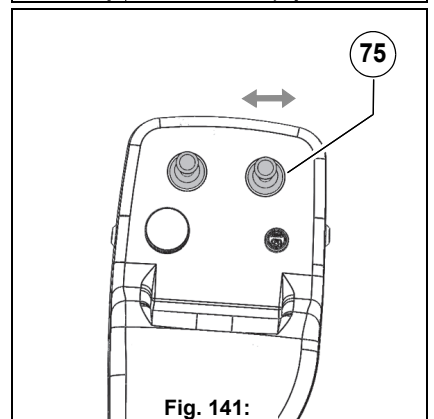

Fig. 141:
- Press the tip switch **Fig. 141-C** and simultaneously move the joystick **Fig. 141-75** to the right – the right-hand rotating brush tilts downwards
- Press the tip switch **Fig. 141-C** and simultaneously move the joystick **Fig. 141-75** to the left – the right-hand rotating brush moves back to the starting position